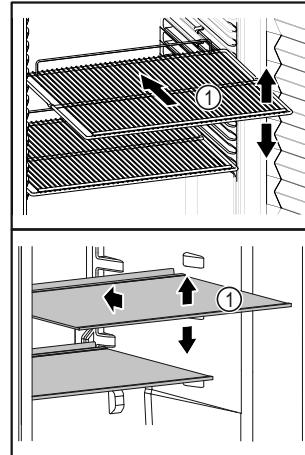

Fig. 4 Example illustration
- If storage surfaces Fig. 4 (1) are movable, adjust them according to height.